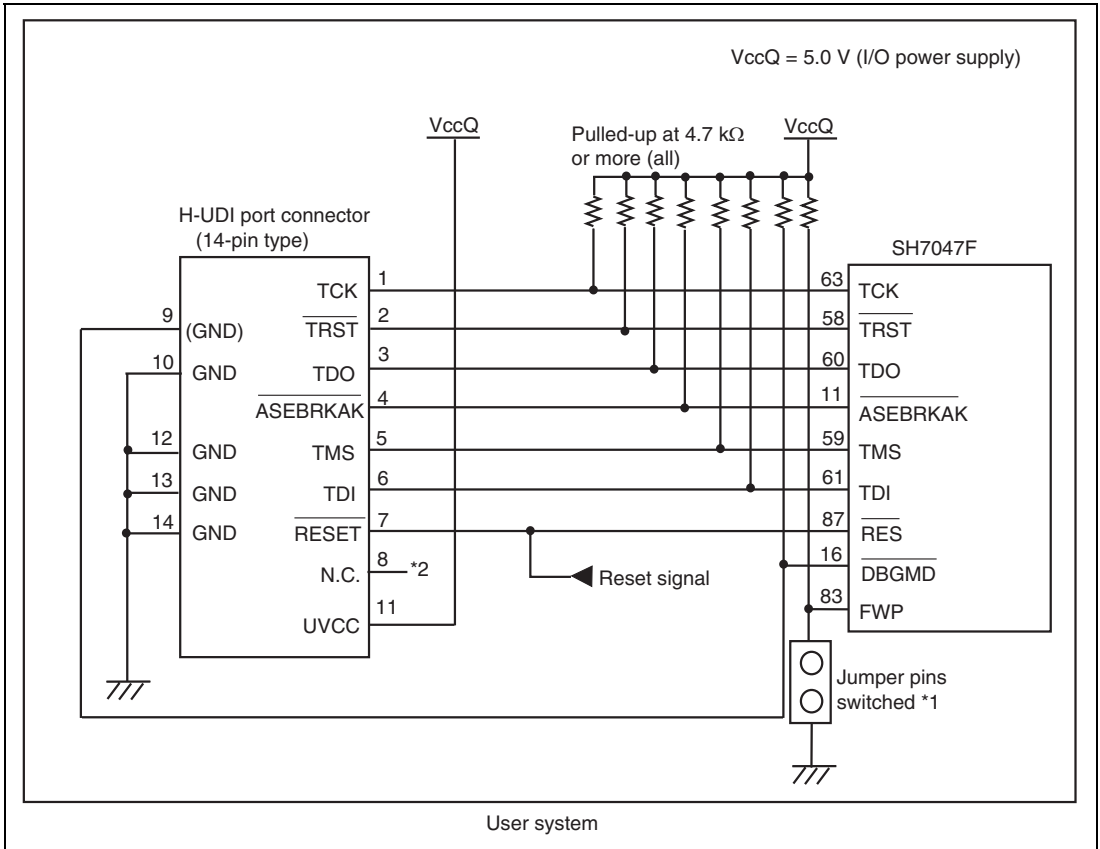
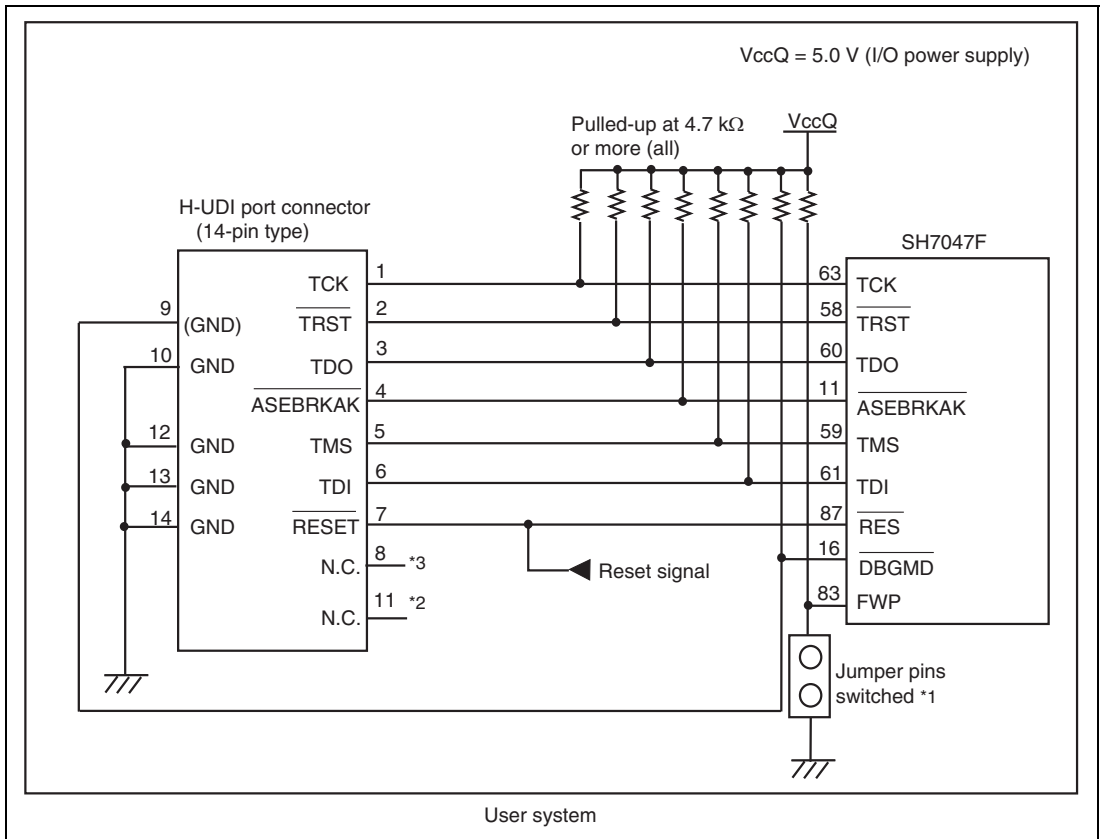

Figure 1.5 Recommended Circuit for Connection between the H-UDI Port Connector and MCU when the Emulator is in Use (14-Pin Type UVCC Connected)
Figure 1.6 Circuit for Connection between the H-UDI Port Connector and MCU when the Emulator is in Use (14-Pin Type UVCC Not Connected^{*2})
Figure 1.5 shows a recommended circuit for connection between the H-UDI and AUD port connectors (14 pins) and the MCU when the emulator is in use. Figure 1.6 shows a circuit for connection when UVCC is not connected.
- (1) When the emulator is used: $\overline{\text{DBGMD}} = 0$ (ASE mode)
- (2) When the emulator is not used: $\overline{\text{DBGMD}} = 1$ (normal mode)Figures 1.5 and 1.6 show examples of circuits that allow the $\overline{\text{DBGMD}}$ pin to be GND (0) whenever the emulator is connected by using the user system interface cable. When the $\overline{\text{DBGMD}}$ pin is changed by switches, etc., ground pin 9. Do not connect this pin to the $\overline{\text{DBGMD}}$ pin.
6. When the power supply of the user system is turned off, supplying VccQ of the user system to the UVCC pin reduces the leakage current from the emulator to the user system. A level shifter that is activated by the internal power supply or user power supply (changed by the switch) is installed in the interface circuit of the emulator. If the user power is supplied to the UVCC pin, the level shifter is not activated as long as no user power is supplied. When the power supply of the user system is turned off, no current flows from the user interface. The I/O voltage level of the user system interface can be the same as that of the VccQ. To operate the emulator with low voltage (lower than 5.0 V), the VccQ must be supplied to the UVCC pin. Make the emulator's switch settings so that the VccQ will be supplied (SW2 = 1 and SW3 = 1) (as shown in figure 1.5).
7. The resistance values shown in figures 1.5 and 1.6 are recommended.
When the circuit is connected as shown in figure 1.5, the switches of the emulator are set as SW2 = 1 and SW3 = 1. For details, refer to section 3.8, Setting the DIP Switches, in the SuperH™ Family E10A-USB Emulator User's Manual.
When the circuit is connected as shown in figure 1.6, the switches of the emulator are set as SW2 = 0 and SW3 = 1. For details, refer to section 3.8, Setting the DIP Switches, in the SuperH™ Family E10A-USB Emulator User's Manual.